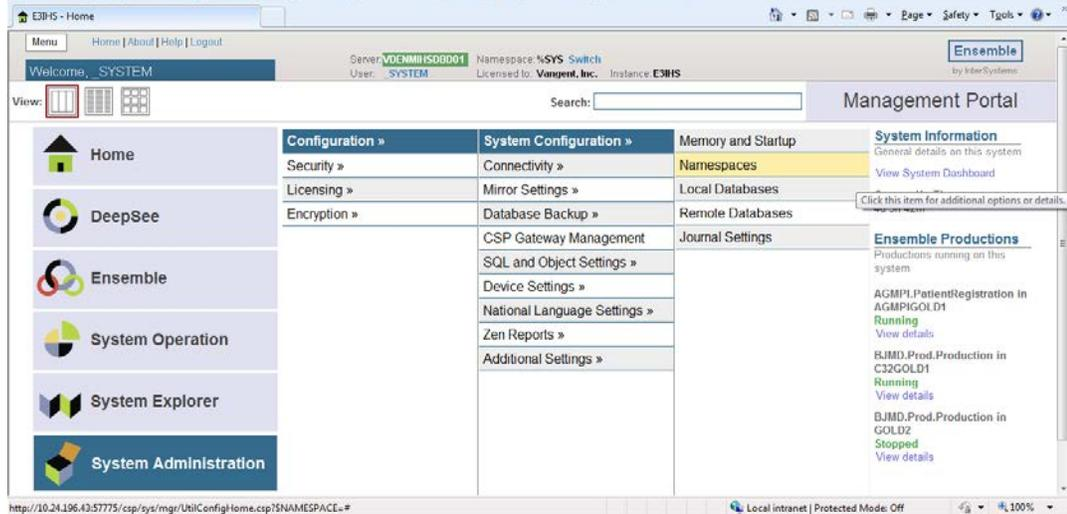

Figure 4-3: System Configuration page
3. Click on **System Administration** menu option, then click **Configuration**, then click **System Configuration** to open the **System Configuration** menu options, as shown in Figure 4-3.